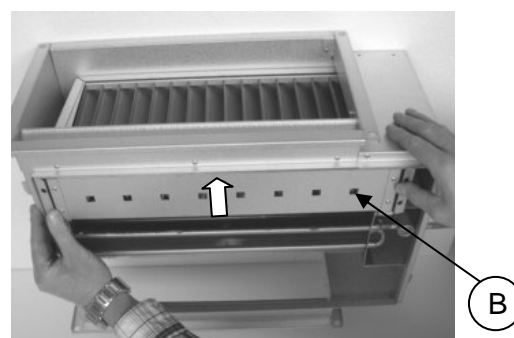
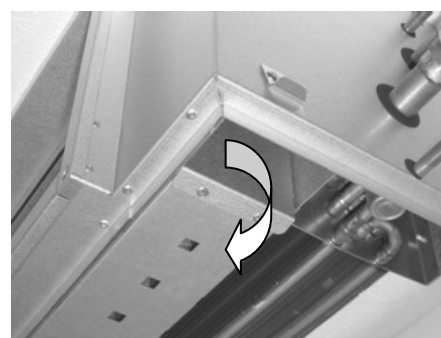

Figure 4
Figure 5
Droplet eliminator DE must be installed downstream of the cooling coil in the duct cooler. Remove the drip tray on the underside. Push the droplet eliminator up until the holder secures it in place (see Figure 5). Carefully check that the arrow on the droplet eliminator corresponds to the direction of airflow and that the drain holes (B) face downwards towards the drip tray (see Figure 4).
eliminator is fitted, push the holder to the side (see Figure 4), and remove the droplet eliminator for cleaning with compressed air or warm water. Use a soft brush to clean the inlet side of the coil, and the entire coil can then be cleaned with compressed air or by vacuum cleaning. Blow the dirt away in a direction away from the air outlet side and towards the inlet side. Take care not to deform the edges of the fins. Clean the bottom of the drip tray, and check that no dirt is lodged in the condensate outlet.